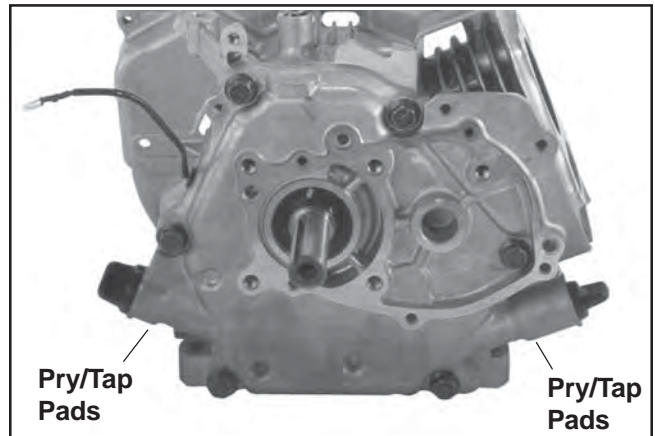

Figure 9-75. CS4, CS6 Closure Plate Mounting Screws.
- Remove the hex flange screws securing the closure plate to the crankcase (six on CS4 and CS6; eight on CS8.5-CS12). See Figures 9-75 and 9-76.
- Locate the pry/tap pads on the closure plate. See Figures 9-75 and 9-76. These areas permit separation of the closure plate from the crankcase with a flat screwdriver or by tapping lightly with a plastic hammer.